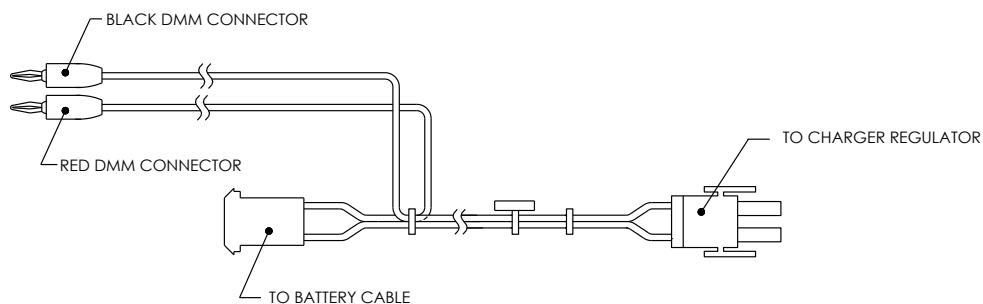

Figure 82: Current measurement troubleshooting cable
4. If the primary AC voltage input level is correct, the wiring to the XRCG4 board terminal is correct, and there is no DC output from the charger, replace the charger fuse (Figure 82: *Current measurement troubleshooting cable*).
4. Connect the current measurement troubleshooting cable (Part No. 2017350-xxx, see Figure 82), to a known good battery and re-connect to XRCG4 board.
4. Connect the current measurement troubleshooting cable (Part No. 2017350-xxx, see Figure 82) to a known good battery, and connect to the XRCG4 board.